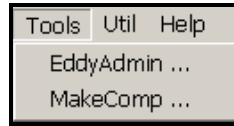

Figure 40. Tools Menu
As shown in Figure 40, the **Tools** menu contains two (2) choices, which are discussed below.